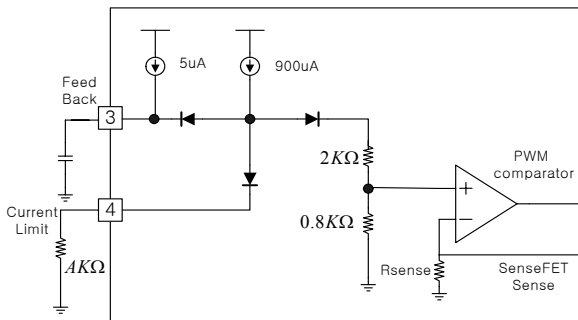

Figure 12. Peak current adjustment
8. Adjusting Current limit function: As shown in fig 12, a combined $2.8\text{k}\Omega$ internal resistance is connected into the non-inverting lead on the PWM comparator. A external resistance of A on the current limit pin forms a parallel resistance with the $2.8\text{k}\Omega$ when the internal diodes are biased by the main current source of $900\mu\text{A}$.